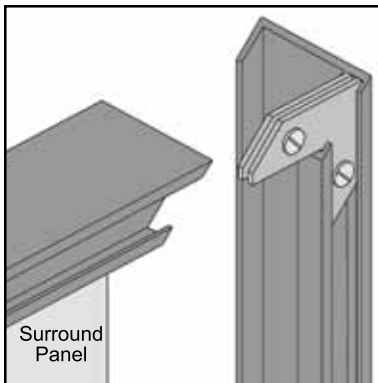
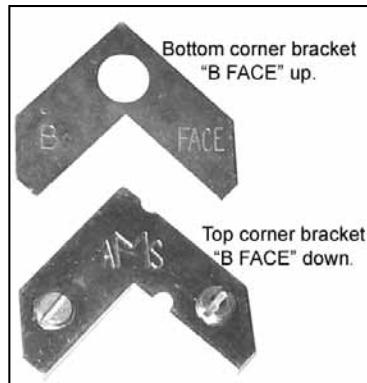

Figure 33: Corner brackets for trim.
Figure 34: Two pieces of corner bracket.
1. Attach one side trim to the top trim, using a corner bracket (see Figure 33) to secure pieces together. There are two (2) main pieces to each corner bracket (see Figure 34). When installing the corner pieces into the trim, the "B FACE" sides must face each other and the screw heads are to face out. With the bracket in place and the top and a side trim snug together, use a flat head screwdriver to turn the two (2) screws in the bracket to tighten it into the trim.